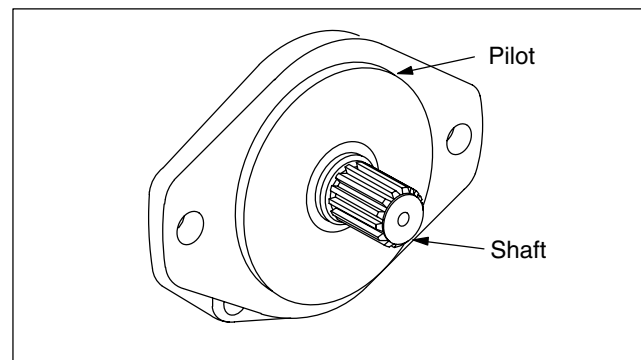

Figure 5
1. **Direct Drive.** A pilot on the mounting flange (Figure 5) assures correct mounting and shaft alignment, provided the pilot is firmly seated in the accessory pad. Care should be exercised in tightening all flange mounting screws to prevent misalignment.